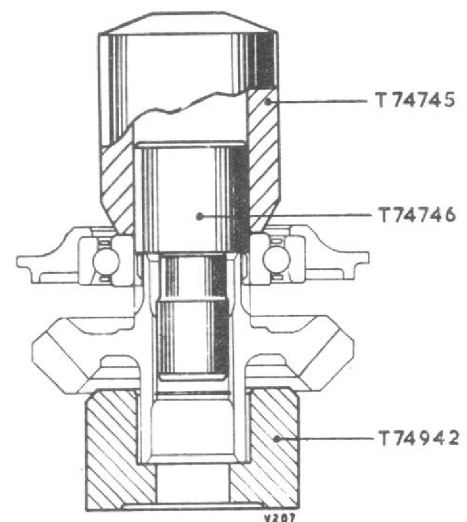

Fig. 4. Pressing the bearing and housing on to the upper vertical drive
- (5) *48 Mk. 2 only.* Fit a new retaining ring (Part No. 60577).
- (6) Place the upper vertical drive gear, gear downwards, on press block T74942.
- (7) Assemble the bearing and housing to the drive gear. Using guide mandrel T74746 and adapter T74745, press on the bearing and housing until it abuts the shoulder behind the gear (fig. 4).
- (8) Remove the assembly from the vice block.